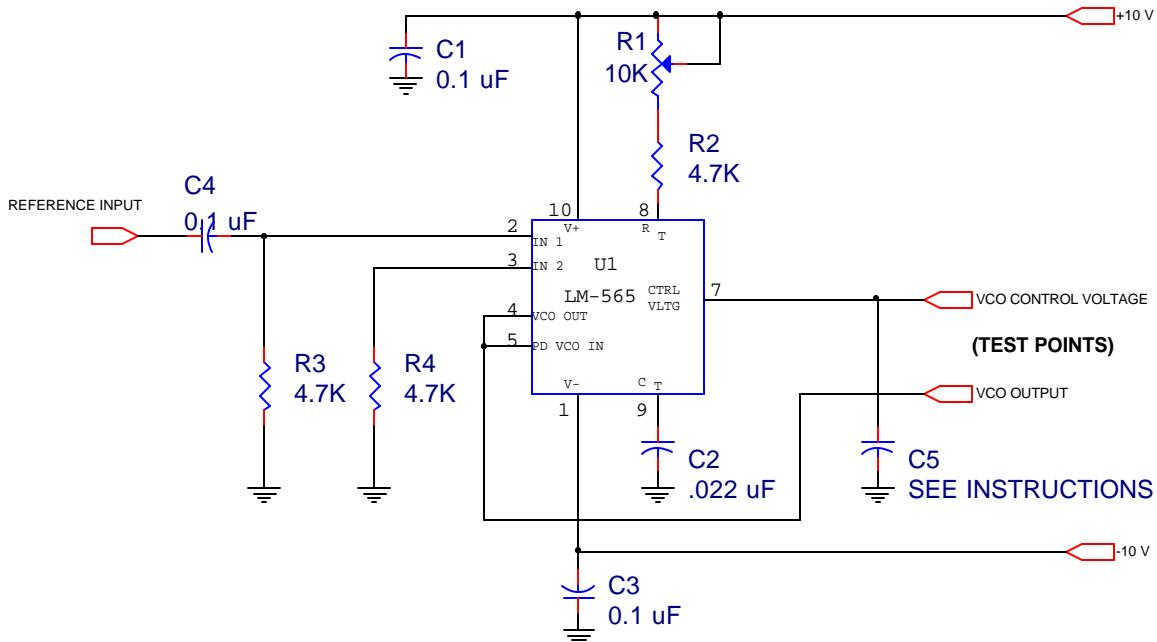

Figure 3: PLL Evaluation Circuit using the LM-565
In Figure 3 the VCO timing is set by  $R_1$ ,  $R_2$ , and  $C_2$ . The low-pass filter time-constant (which we will vary) is formed by the internal 3.6K resistor on pin 7 and  $C_5$ . The reference input goes to pin 2, one of the phase detector inputs. The other phase detector input on pin 5 is directly connected to the VCO output on pin 4, closing the loop.
1. Construct the circuit of Figure 3 using a 10  $\mu\text{F}$  electrolytic for C5. (C5 is the capacitor for the loop low-pass filter.)